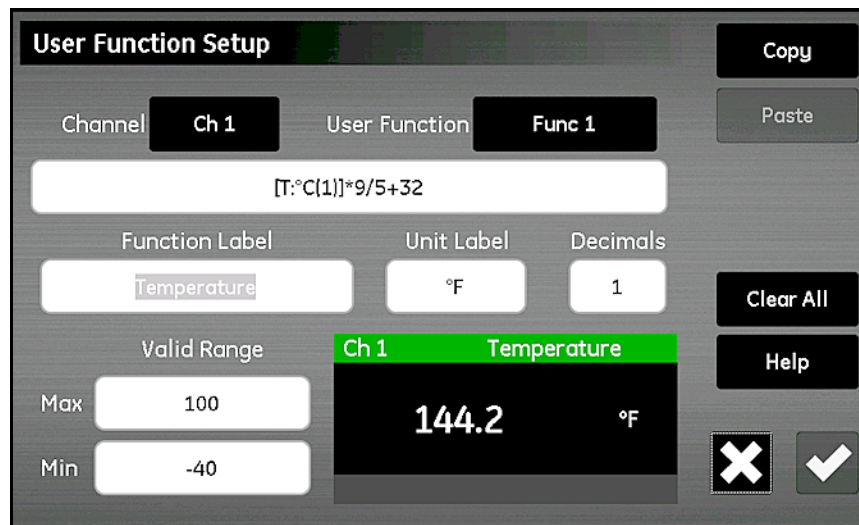

Figure 60: User Function Setup Screen
1. Tap the **User Function** button on the *Configuration Menu* screen (see *Figure 52 on page 55*) to open the *User Function Setup* screen (see *Figure 60* below).